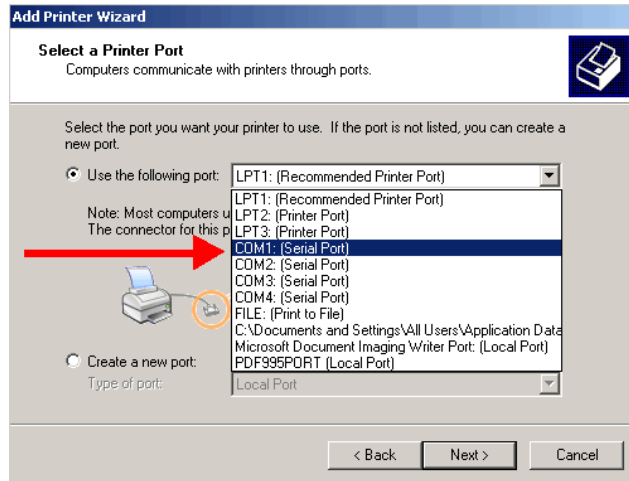

Figure 3-6
3.2.6. Direct the printer to the port where it is installed. (Figure 3-6)